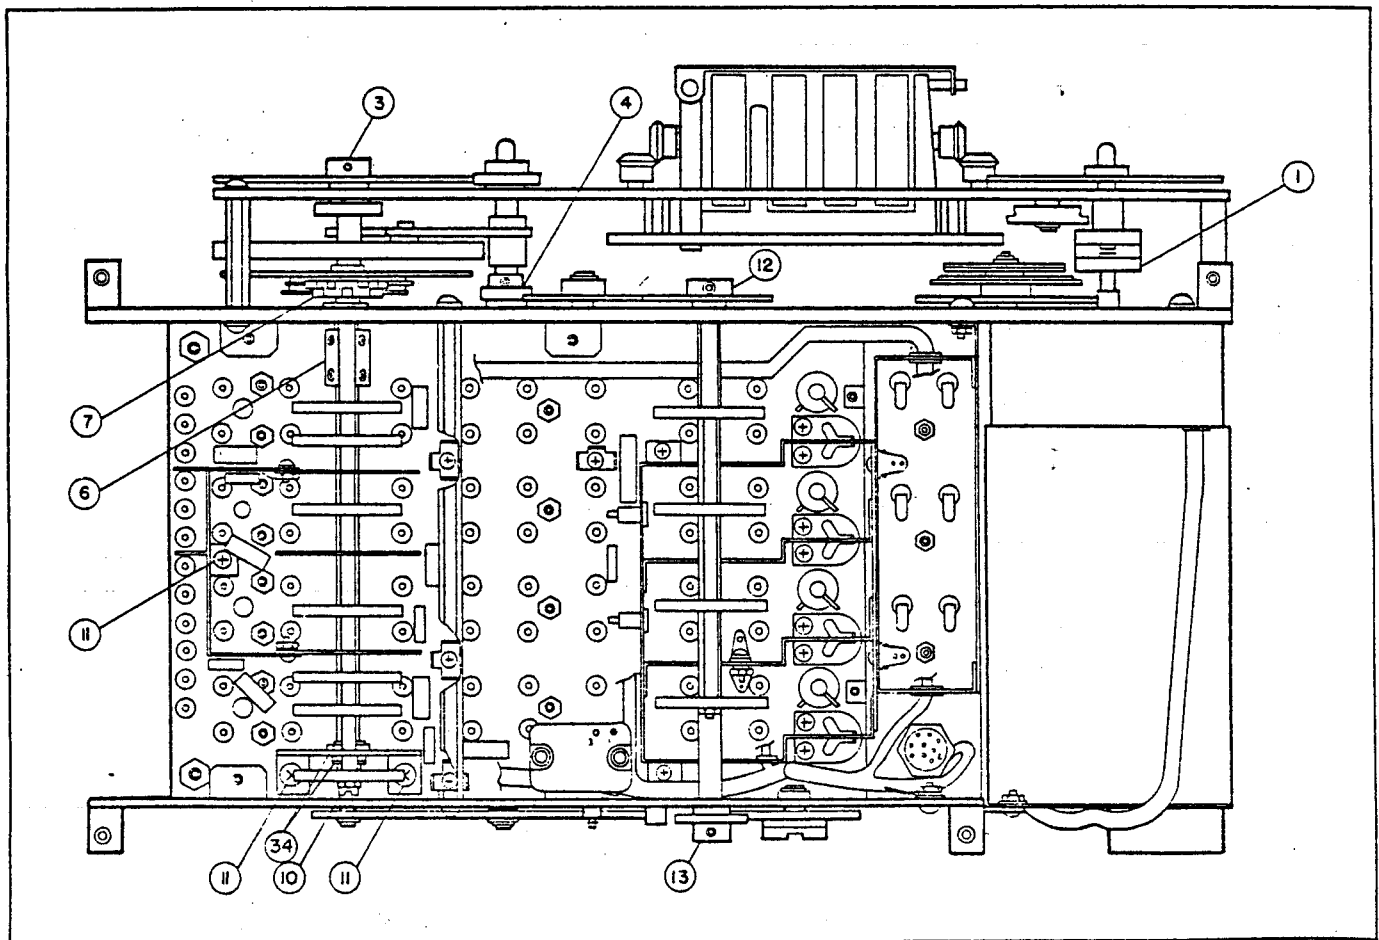

Figure 3-4. R-F and I-F Tuner Assembly, Bottom View
- b. Loosen the two setscrews of coupler (item 1, figure 3-4) located nearest the r-f and i-f tuner assembly middle plate and mounted on the variable frequency oscillator shaft.
- b. Remove pin from gear (item 3, figure 3-4). Remove gear (item 3, figure 3-4).
- b. Loosen four setscrews in the r-f switch coupler (item 6, figure 3-4).
- e. Remove retaining rings (item 34, figure 3-4) and slide the r-f switch shaft (item 10, figure 3-4) out the rear of the r-f and i-f tuner assembly.
- f. Remove three screws (item 11, figure 3-4) securing the r-f switch to the bottom plate.
- b. Loosen setscrews (item 12, figure 3-4) and remove gear.
- c. Remove the i-f switch shaft (item 13, figure 3-4) from the rear of the r-f and i-f tuner assembly.
c. Replace the i-f switch shaft from the rear of the r-f and i-f tuner assembly, mating the coupler gear as illustrated in figure 3-4, item 13.